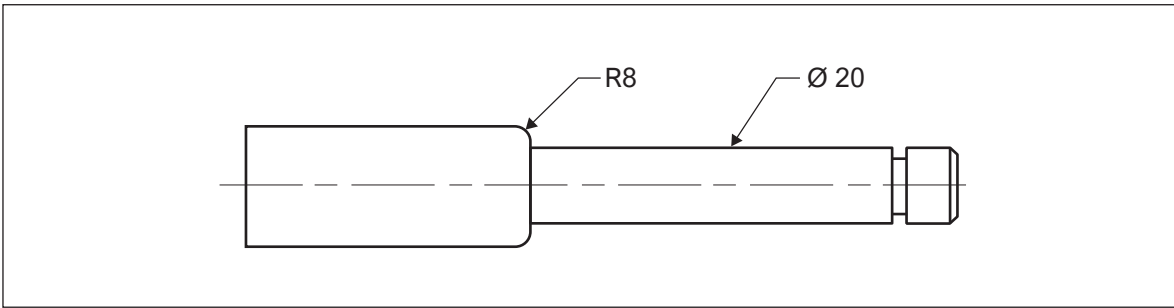
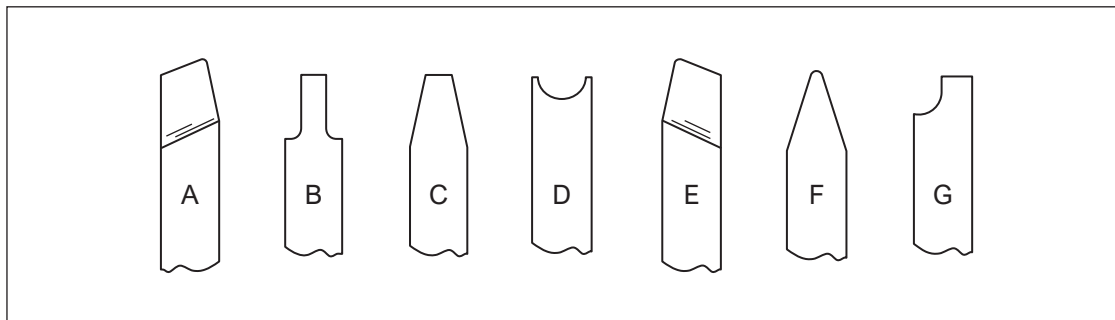

Figure 8
Figure 10
The shaft shown in Figure 8 will be machined on a lathe.
- b. Figure 10 shows the top view of seven high-speed steel (HSS) lathe tools labelled A–G.
Complete the table below with the most appropriate tool from Figure 10 for machining each feature shown in Figure 8 on page 10.